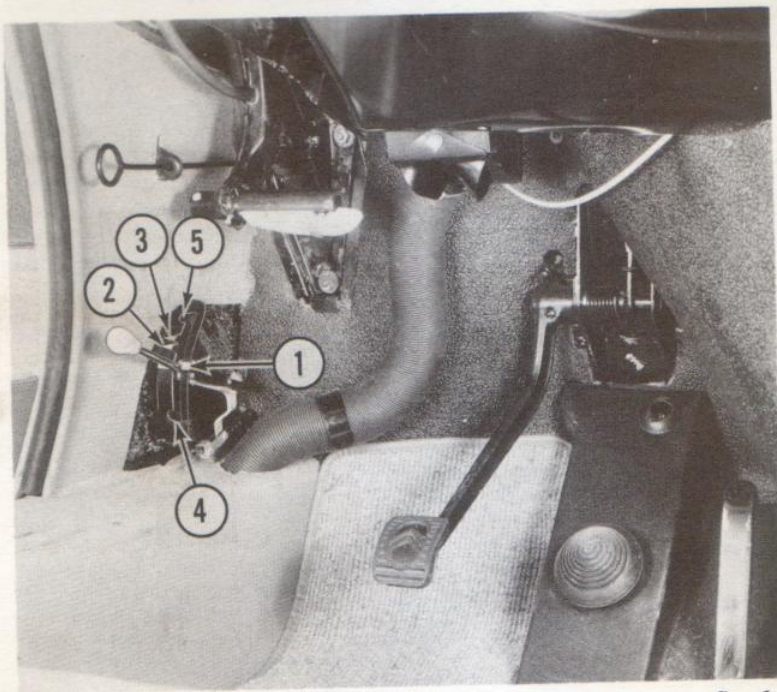

fig. 14
### road clearance adjustment fig. 14
- Set height control lever to top position fig. 14. Let car rise and stabilize at upper lever.
- Raise car to high position slot 5 fig. 14 and remove stand.